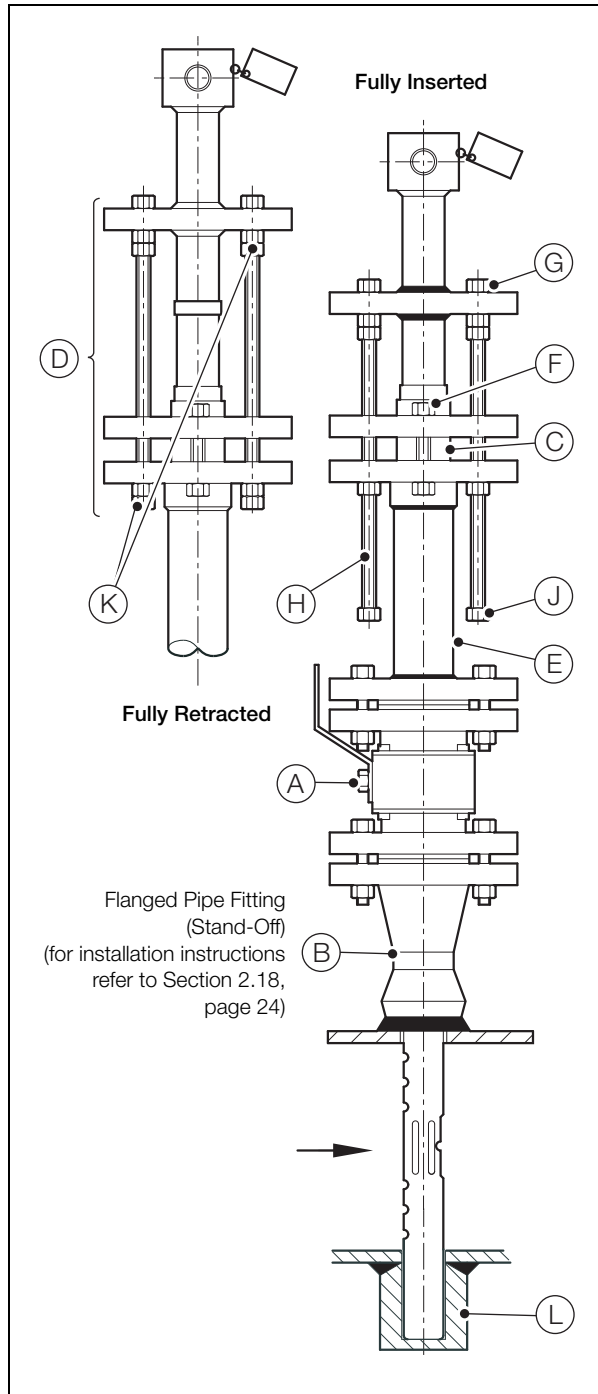

Fig. 2.15 Installation of Flanged Models
4. Referring to Fig. 2.15:
- a. Fit isolation valve (A) to flanged coupling (B).
- b. Ensure 6 packing rings are located correctly inside packing gland (C).
- c. Ensure the drawbolt (or optional geared) retraction assembly (D) is in the fully retracted position.
- d. Fit flanged pressure chamber (E), complete with packing gland (C) and retraction assembly (D), to isolation valve (A).
- e. Insert the Torbar into packing gland (C).